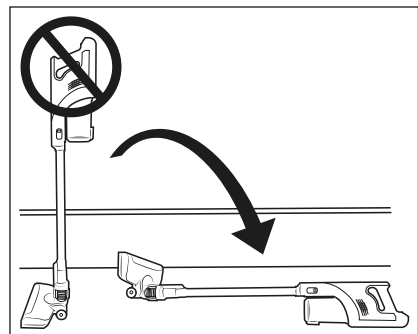

Fig. 9
- ▶ Do not try to place the vacuum cleaner upright when you want to put it down or take it out of your hand in the meantime. To do this, place the vacuum cleaner in the wall bracket **17** or lay it on the floor (see Fig. 9 and 10). Due to its high centre of gravity, the vacuum cleaner may otherwise tip over and be damaged and possibly damage other objects when tipping over.